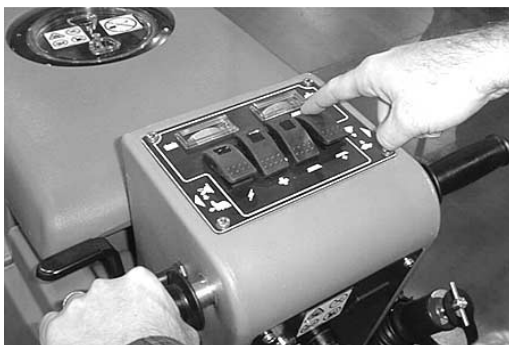

FIG. 6
2. Raise scrub head. Press top half (–) of brush pressure switch to raise. Hold switch down until scrub head actuator turns off (*Figure 6*).